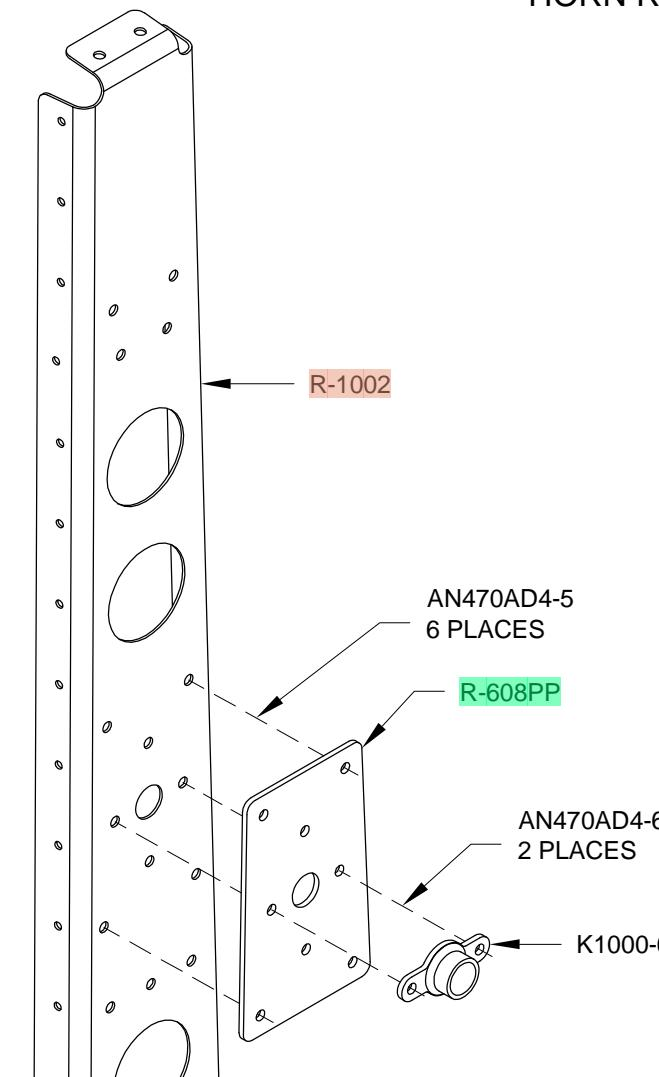
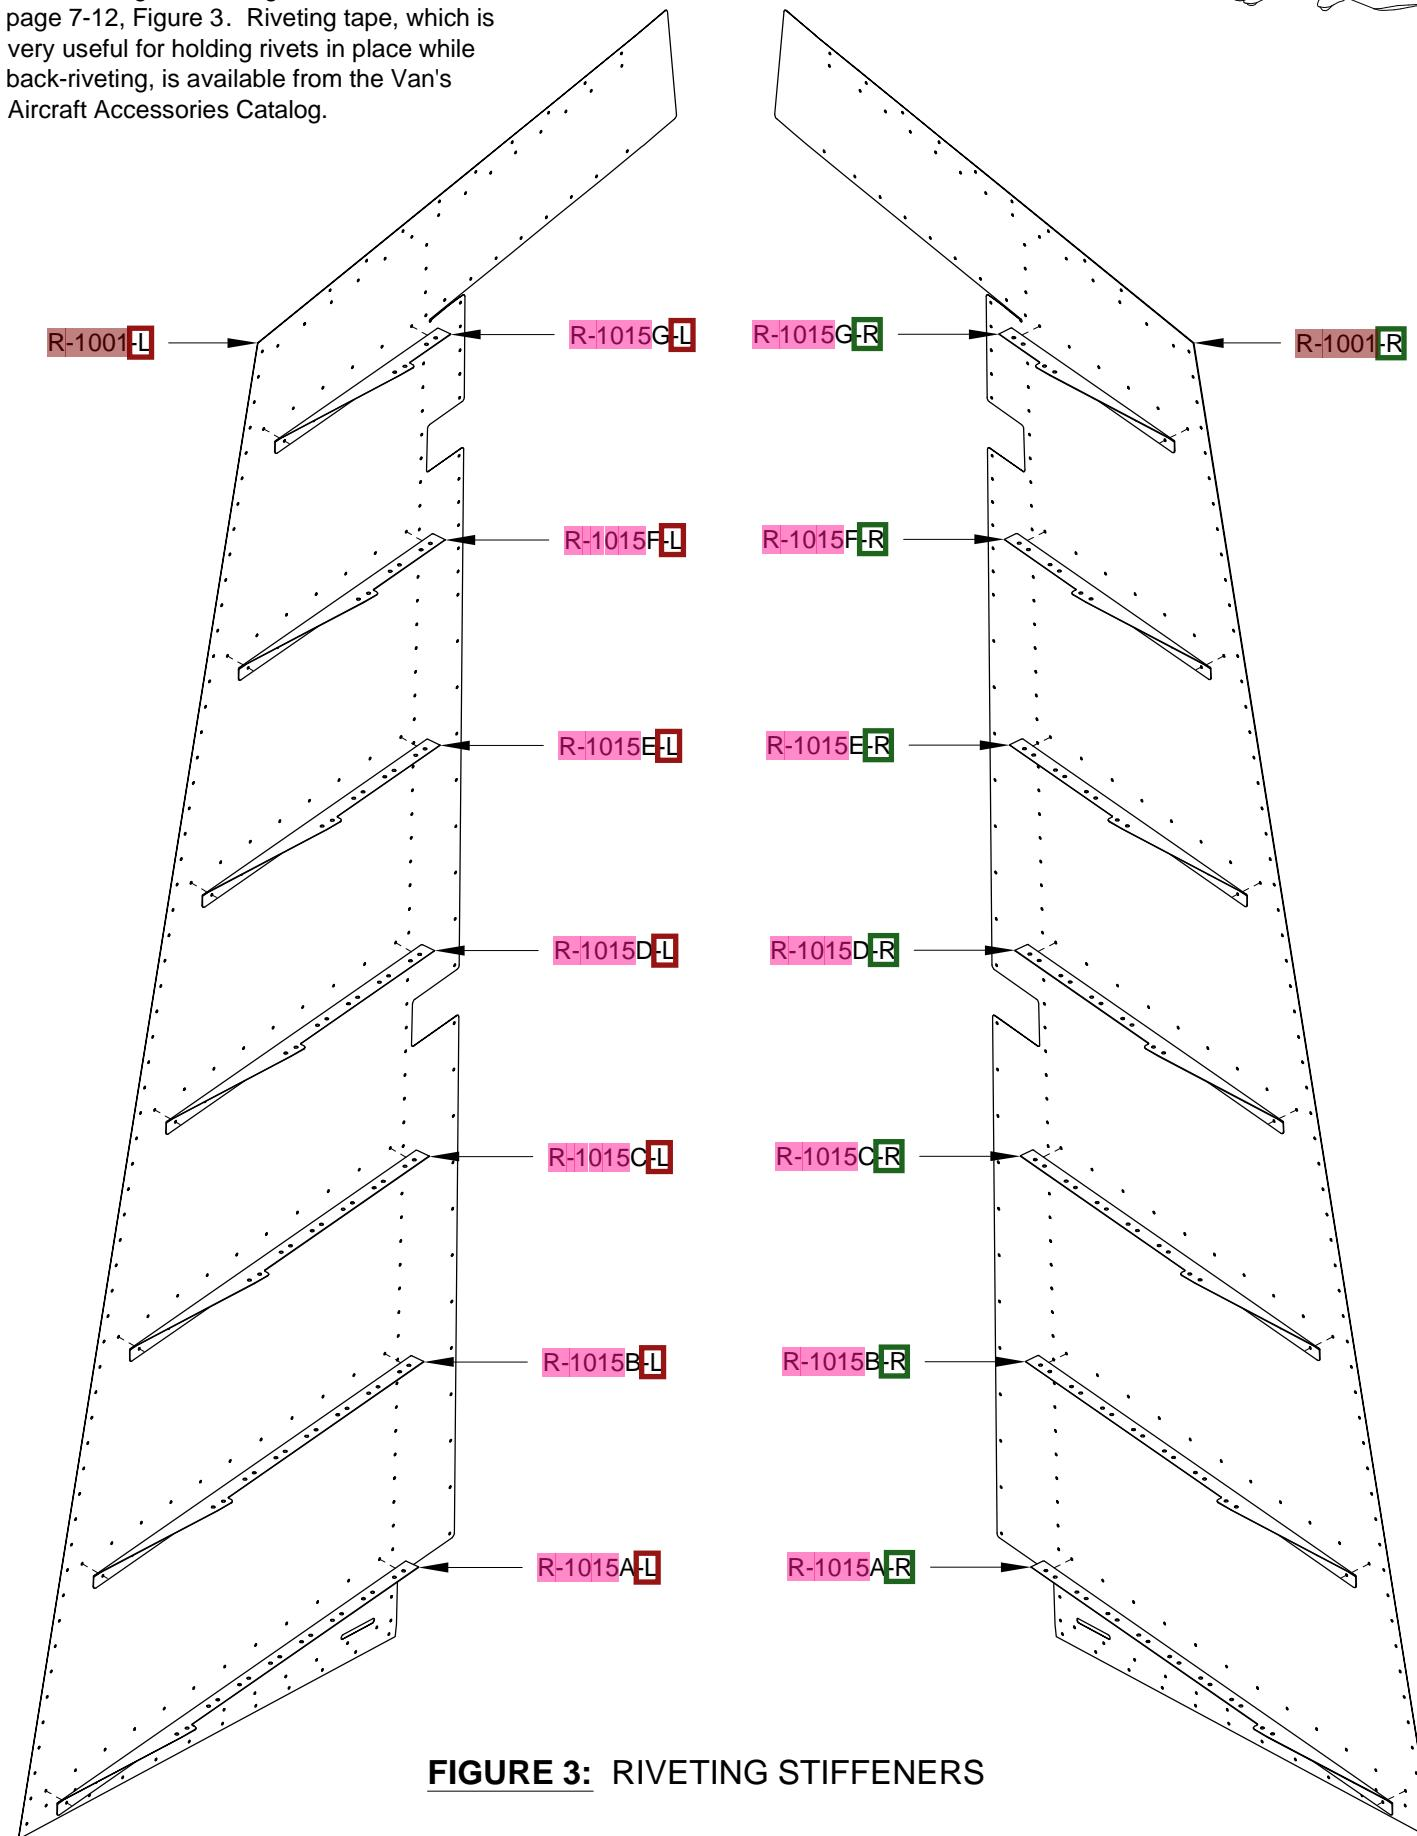
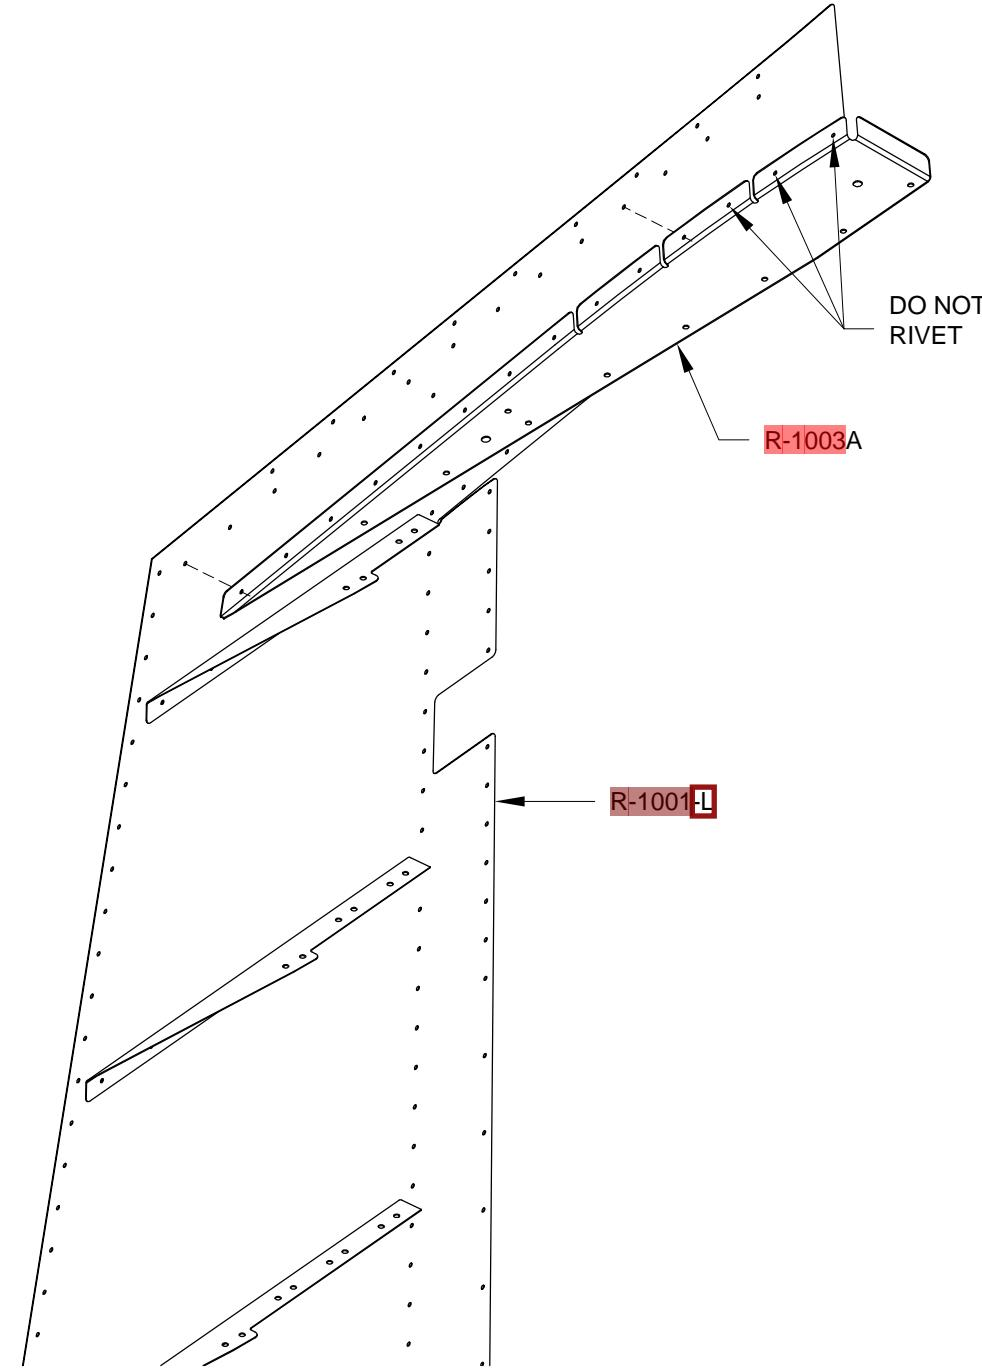

FIGURE 2: REINFORCEMENT PLATE RIVETS
FIGURE 3: RIVETING STIFFENERS
FIGURE 1: RIVETING THE R-1003A TOP RIB HALF
Step 4: Repeat step 3 for the R-607PP Reinforcement Plate (as located on Page 7-5, Figure 2) using the same rivets and an additional nutplate.
Step 5: Back rivet (see Section 5F) all the R-1015 Stiffeners to the R-1001 Skins, as shown in Figure 2, using the rivets shown on page 7-12, Figure 3. Riveting tape, which is very useful for holding rivets in place while back-riveting, is available from the Van's Aircraft Accessories Catalog.
Step 1: Position the R-1003A Top Rib half on the R-1001L Skin as shown in Figure 1. Rivet it in place using the rivets called out on page 7-12, Figure 3. However, leave open the forward three holes to allow the skin to be pulled back for access when attaching the counterbalance weight.